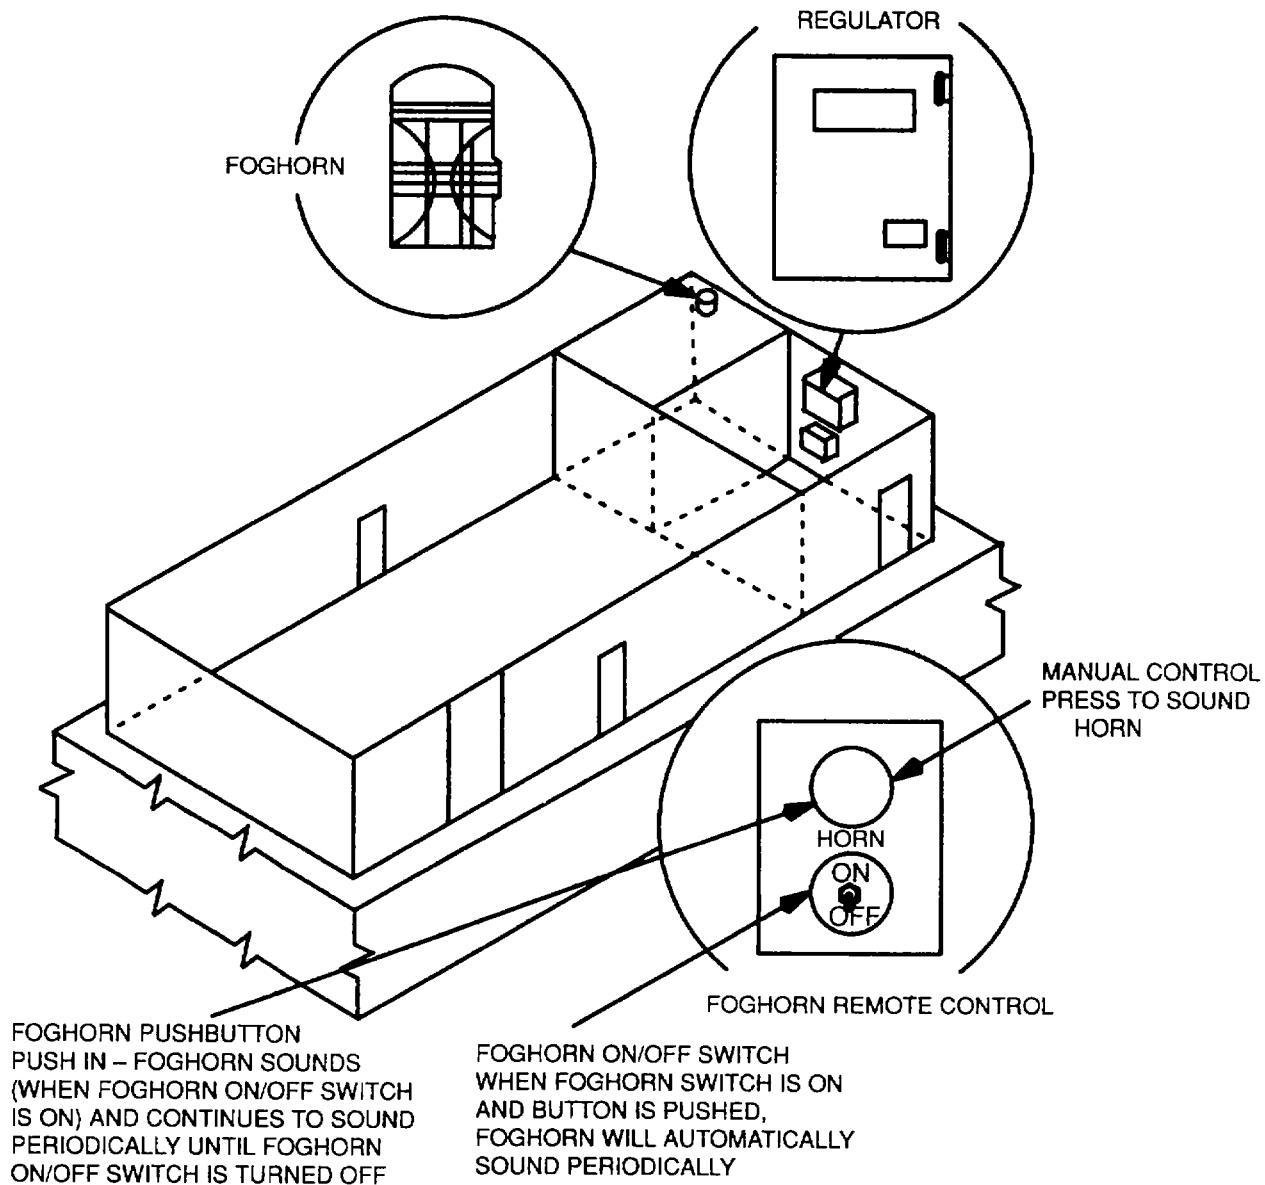

Figure 3-1. Foghorn Major Component Location
**3-1 Description.** The foghorn produces an omidirectional sound to warn approaching vessels of barge location during periods of poor visibility. The foghorn shown in Figure 3-1 consists of the major components listed in Table 3-1. Installation is shown on drawings listed in Appendix A. Additional information about the equipment is contained in manufacturers' service manuals/instructions in Appendix B.
**3-9 Operating controls and indicators.** Foghorn controls are shown in Figure 3-1.
- b. Make sure circuit breaker 6P14 on 24 Vdc power panel is closed (ON).
- a. Turn foghorn ON/OFF switch on remote control box (Figure 3-1) to ON.